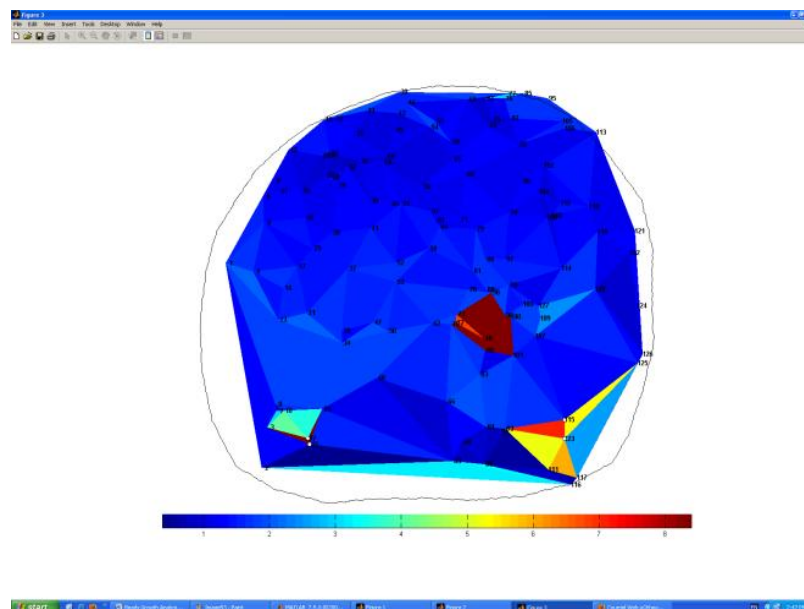

Figure 20. Inappropriate color triangle
10. **Editing growth maps:** Inappropriate color triangles (ex: a red triangle surrounded by blue triangles) is the indication of a matching error and can be edited by pressing "0", and click on it to delete the bead match (Figure 20). If satisfied with the growth map press "123" to proceed to the next pair of DASs.